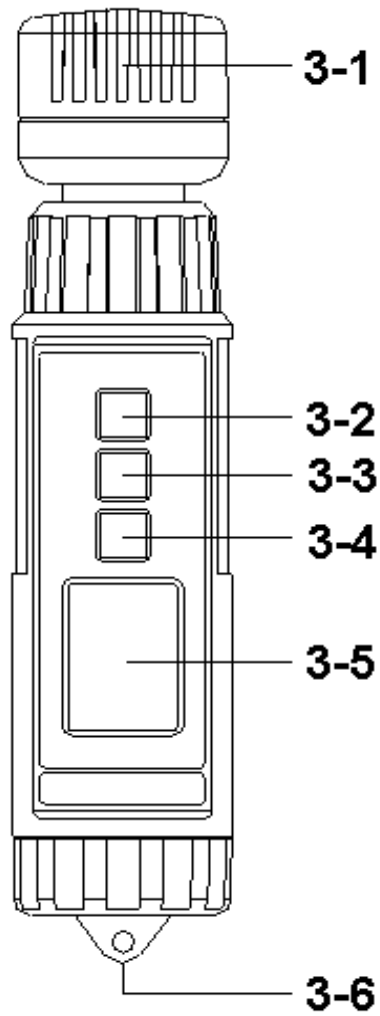

Fig. 1
- 1) Power on the meter by pressing the " Power Button " (3-2, Fig. 1) once,
- 2) Locate the " Oxygen/Temp. Sensor " (3-1, Fig. 1) to the position that intend to make the measurement. The upper Display (3-5, Fig. 1) will show the O₂ (Air oxygen) value in the unit of " %O₂ ". The lower Display (3-5, Fig. 1) will show the Temperature (Air Temp.) value in the unit of " °C " or " °F ".
Power off the meter, press the " REC Button " (3-4, Fig. 1) continuously then power on the meter (press the " Power Button " once), the O₂ buzzer warning function will be disable.
- 1) During the measurement, press the " Hold Button " (3-3, Fig. 1) momentarily to hold the measured value. The LCD will show a " HOLD " symbol.
- 1) The Data Record function can memorize the maximum and minimum readings. Press the " REC Button " (3-4, Fig. 1) once to start the Data Record function and there will be a " REC " symbol on the display.
- a) Press the " REC Button " (3-4, Fig. 1) once, the " REC MAX " symbol along with the maximum value will appear on the display.
** If intend to delete the maximum value, just press the " Hold Button " (3-3, Fig. 1) once, then the display will show the " REC " symbol only & execute the memory function continuously.*
- b) Press the " REC Button " (3-4, Fig. 1) again, the " REC MIN " symbol along with the minimum value will appear on the display.
** If intend to delete the minimum value, just press the " Hold Button " (3-3, Fig. 1) once, then the display will show the " REC " symbol only & execute the memory function continuously.*
- 2) Press the " Hold Button " (3-3, Fig. 1) continuously, use another finger power ON the meter (press the " Power Button " once), until the Temp. unit (°C or °F) is presented on the Display then release the " Hold Button ", the Temp. unit will change From °C to °F (or °F to °C) with default.
- 3) Use the two fingers to press both the " Hold Button " (3-3, Fig. 1) and the " REC Button " (3-4, Fig. 1) at the same time. Until the upper Display show the text " CAL " (the lower Display will show the value 20.9), release the two fingers from the buttons, the text " CAL " will flashing within several seconds, then the Display will return to normal screen and show O2 value to " 20.9 ± 0.1 %O2 " and finish the calibration procedures.
- 3) To change the batteries, open (rotate clockwise direction) the " Battery Cover " (3-6, Fig. 1).
- 4) Make sure the " Battery cover " (3-6, Fig 1) is secured after changing the batteries.